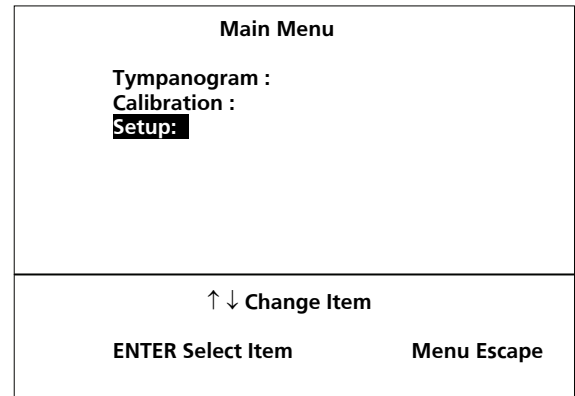

Figure 26
You can change the menu options with the cursor keys: Up ⑫, Left ⑨, Down ⑩ and Right ⑪. The menu option actually selected is marked inverse on the LCD display ⑤ (SETUP in the example Figure 26). You select the chosen menu option by pressing Enter ⑬.